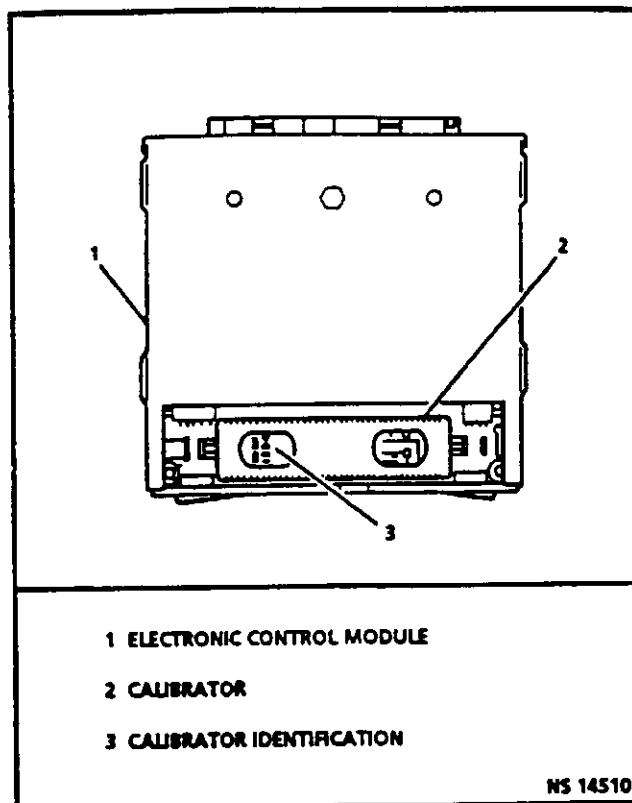

Figure 3.1-1 Calibrator Identification
- When replacing the production electronic control module with a service electronic control module, it is important to transfer the calibrator identification and production electronic control module number to the service electronic control module label (see Figure 3.1-1). Please do not record on electronic control module cover. This will allow positive identification of electronic control module parts throughout the service life of the vehicle.